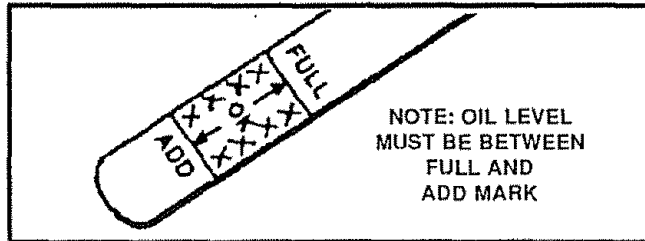

FIG. 19
Check the crankcase oil level (See Fig 19) before starting the engine and after each five (5) hours of continuous use. Add S A E 5W-30 motor oil as needed. Tighten fill cap/dipstick securely each time you check the oil level. S A E 5W-30 motor oil may be used to make starting easier in areas where the temperature is 20° F or lower.